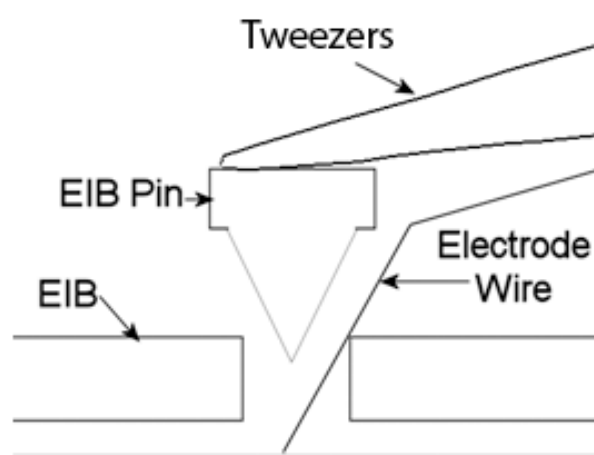

Figure 3-2 Placing Pin into the EIB hole
3. Using the tweezers place the pin in the EIB electrode hole as shown in Figure 3-2 Placing Pin into the EIB hole.